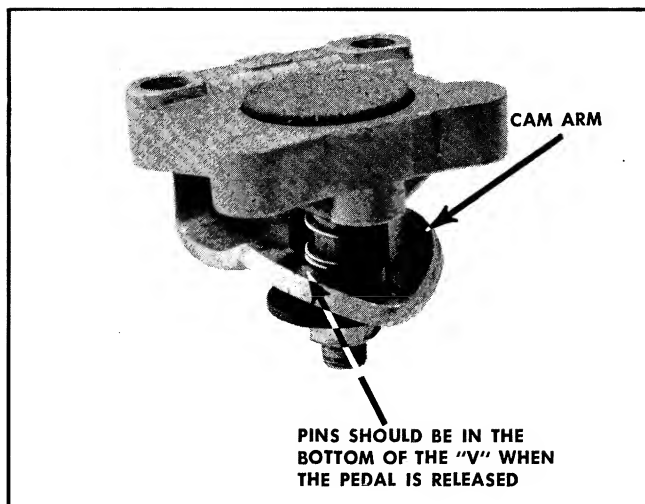

FIGURE 20. PEDAL ADJUSTMENT
2. Put the control lever in the neutral position. See Figure 17. Depress the foot pedal and move the parking brake into the Start/Park position. Put the axle range lever in the neutral position. Loosen the pedal adjustment nut on the end of the brake rod until the brake is loose. See Figure 20. The rear wheels can be rotated by hand freely now.
Step 1. With the Brake Pedal released, the pins on the disc brake should be in the bottom of the "V" on the cam arm as shown in Figure 20.